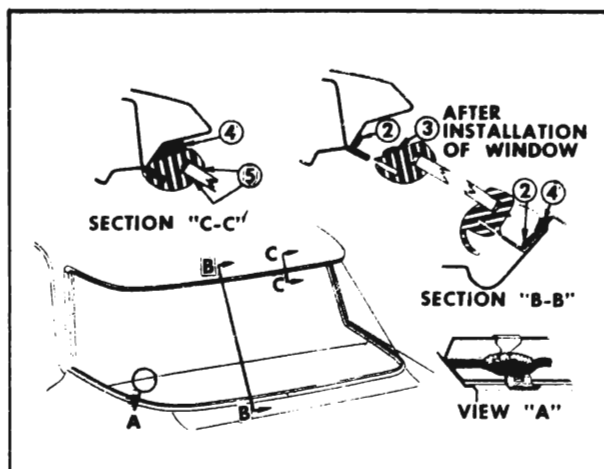

Figure 4-4—Back Window Sealing
2. Check installation of reveal molding clips at pinchweld and retaining flanges and replace clips, where necessary. If replacing clips, apply medium-bodied sealer to opening rabbet, prior to installing clips (see "1" in View "A", Figure 4-4).
3. Apply a continuous ribbon (approximately 1/4" thick) of medium-bodied sealer to wall of back window rabbet completely around opening (see "2" in Section "B-B", Figure 4-4).
5. Apply a continuous ribbon of medium-bodied sealer (approximately 1/2 inch wide by 1/4 inch thick) to base of rubber channel across top and down sides of rubber channel (see "3" in Section "B-B", Figure 4-4).
10. Using a pressure type applicator, apply sufficient medium-bodied sealer to completely fill wedge shaped opening between rubber channel and body completely around rubber channel (see "4" in Section "B-B" and "C-C", Figure 4-4).
11. Using a pressure type applicator (pistol type oiler) apply weatherstrip adhesive (black) between rubber channel and glass on inside and outside of glass around entire perimeter of glass (see "5" in Section "C-C", Figure 4-4). Application of adhesive should be continuous with no skips.